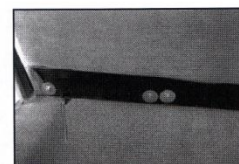

Figure 4-184
3. Drill four (4) 15/32" holes for the anchor bolts (7/16-20 x 2"). Before drilling holes, make sure that no wiring or obstruction will hinder installation of the mounting hardware. On the Fordor Sedan, the anchor bolts and hardware will be exposed on the back side of the lower backrest. The exposed hardware can later be covered with floor carpeting if desired (Figures 4-184/185).